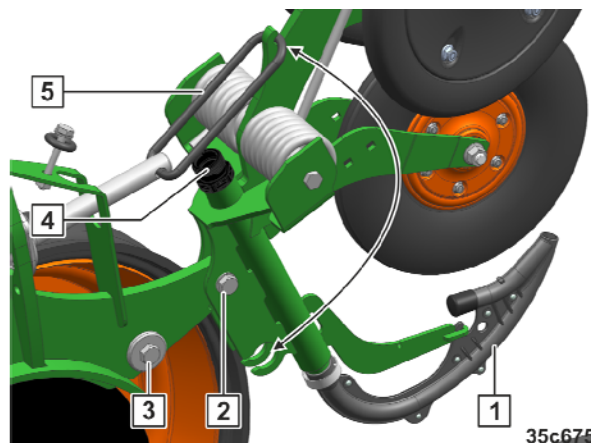

Fig. 315
6. Loosen and remove the seeding tube (Fig. 315/4).
7. Undo the bolt (Fig. 315/2).
8. Undo the bolt (Fig. 315/3).
9. Swivel the rear coulter unit into maintenance position and secure with the bracket (Fig. 315/5).
10. The seeding tube (Fig. 315/1) is swung out of the furrow former.